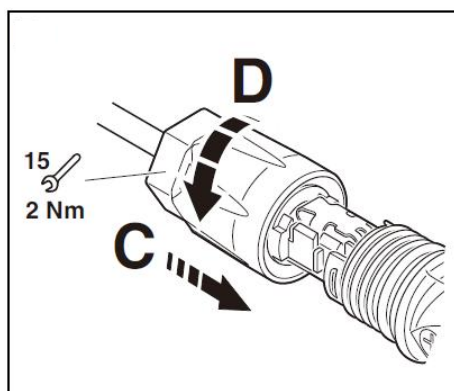

Figure 5-14
6. Push the insert into the sleeve (Figure 5-14, C).
7. Tighten the cable gland to 2 Nm (Figure 5-14, D) Use a suitable and calibrated torque wrench, size 15. Use an open-jaw wrench, size 16 to hold the connector in place.